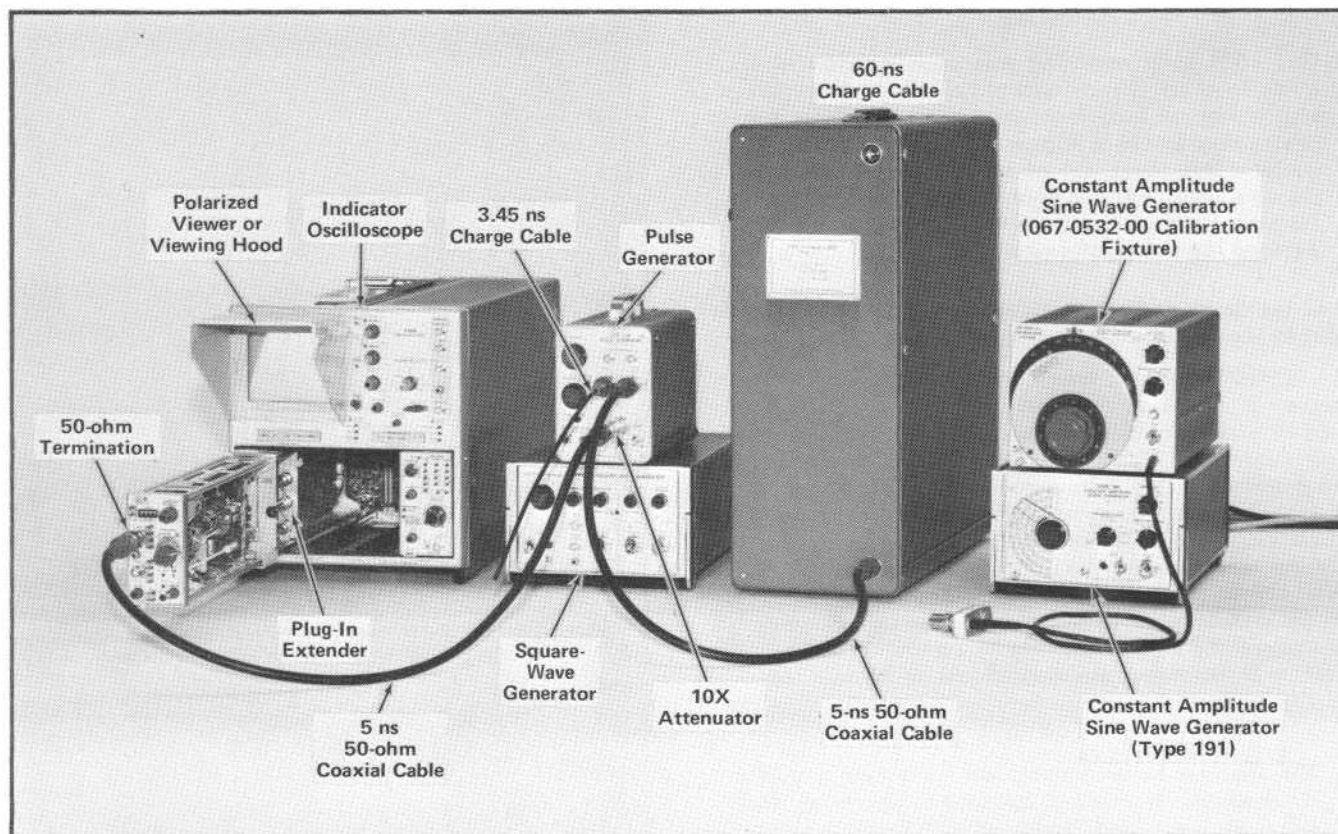

Fig. 5-23. Initial setup and the equipment required for checking the trigger and signal amplifier response described in steps 23 through 26.
- a. Test equipment setup, with connections made at completion of step 23c, is shown in Fig. 5-23.